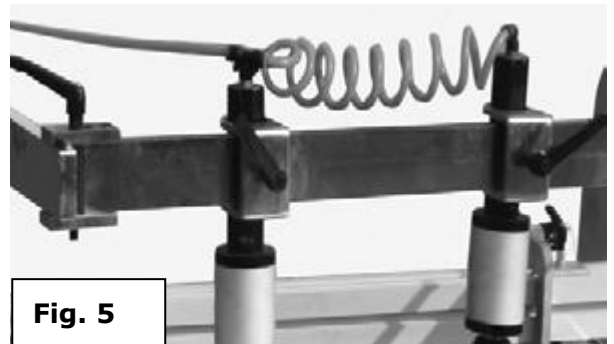

Fig. 5
- Insert the loose end of the long air hose into the Y-fitting as shown in Fig. 5
- Insert on end of the short air hose into the Y-fitting, and the other end into the I-fitting. See Fig. 5